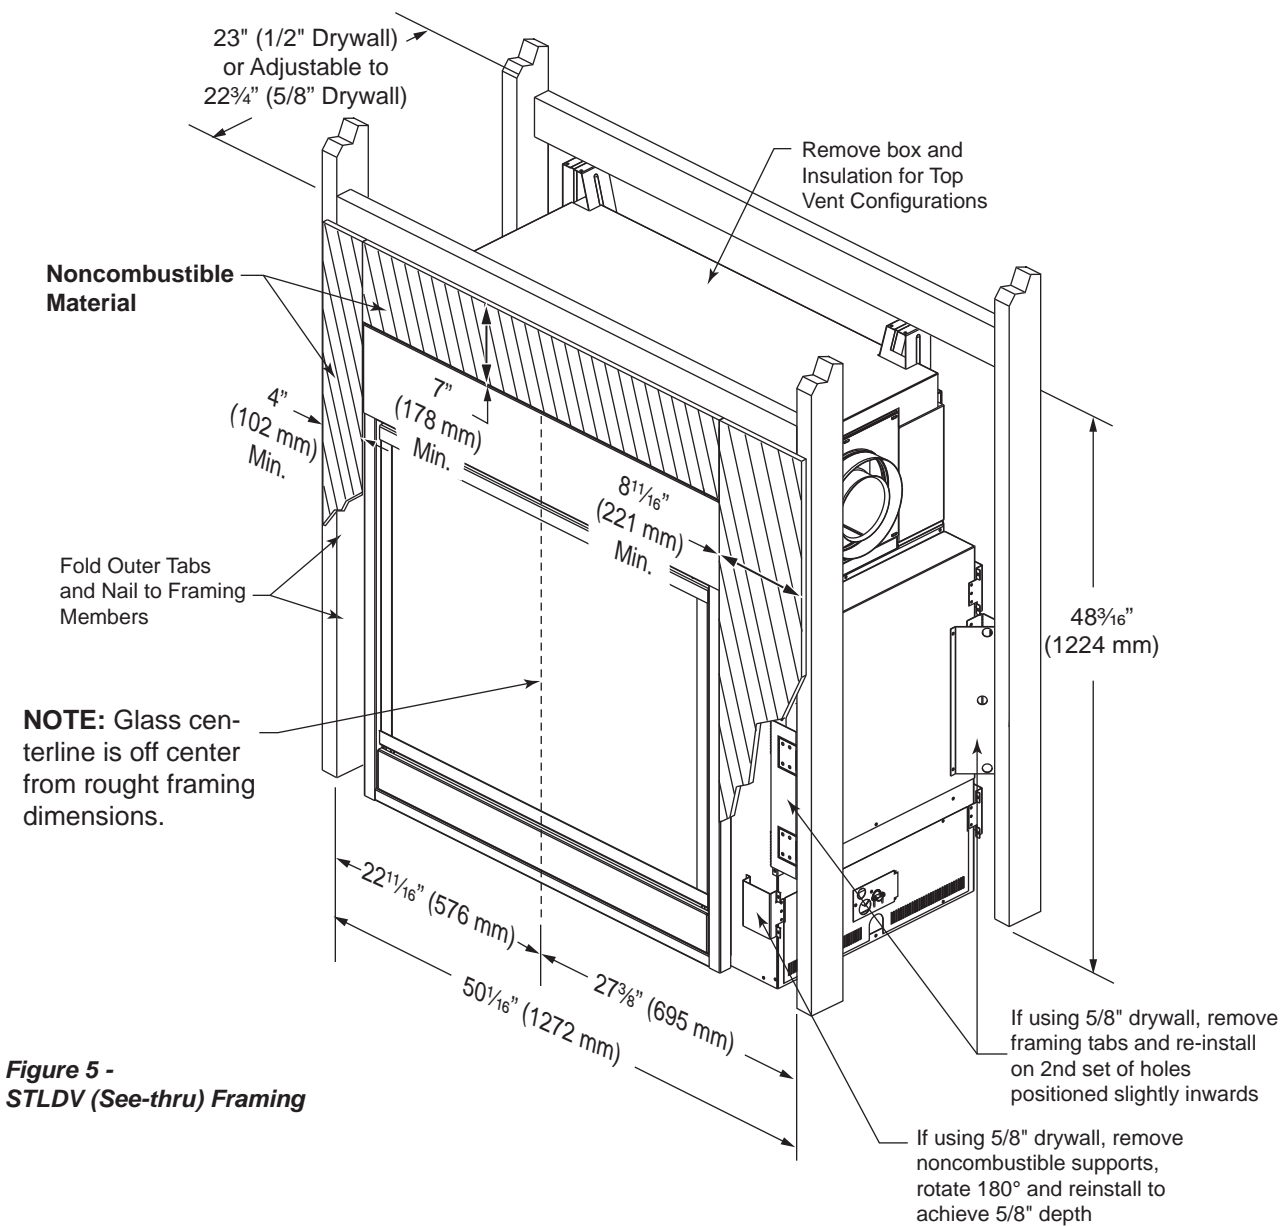

Figure 5 - STLDV (See-thru) Framing
The fireplace must be secured to the floor and/or to framing studs as shown in *Figure 5*. Use four (4) wood screws or masonry/ concrete screws to secure fireplace to the floor. Use four (4) screws to attach fireplace to framing. The side brackets or nailing flanges are designed to accommodate two wall boards thicknesses, 1/2" or 5/8".
NOTE The area above and on the sides of the fireplace must be a noncombustible material. *Figures 5, 6, 7*
NOTE The area above and on the sides of the fireplace must be a noncombustible material. Figures 5, 6, 7
NOTE: The Vermont Castings Group Model BPWC500 mantel is specially designed to comply with all mantel temperature requirements. Any custom-built mantels must comply with the framing clearances and the use of non-combustibles as shown in Figures 5, 6 and 7.
Firebox framing can be built before or after the appliance is set in place. Construct firebox framing following *Figure 5, 6 or 7* for your specific installation requirements. The framing headers may rest on the top of the firebox stand-offs. Do not bring headers below top of standoffs. **NOTE:** When planning your framing and installation, keep in mind that the gas line and electric power come in on the same end of the fireplace. Refer to Figures 2, 3 & 4 for fireplace dimensions.